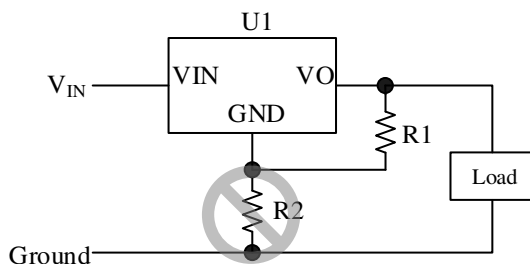

Figure 13-2 Output Voltage Setting
- The output voltage setting resistor is connected between the GND pin and Ground (see Figure 13-2).